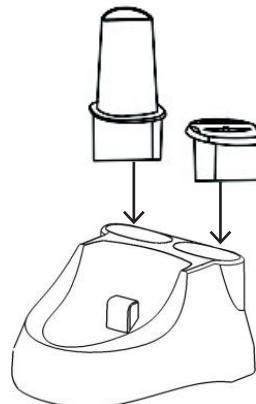

Figure 12
- The accessories can be stored in the compartments provided (Fig. 12).